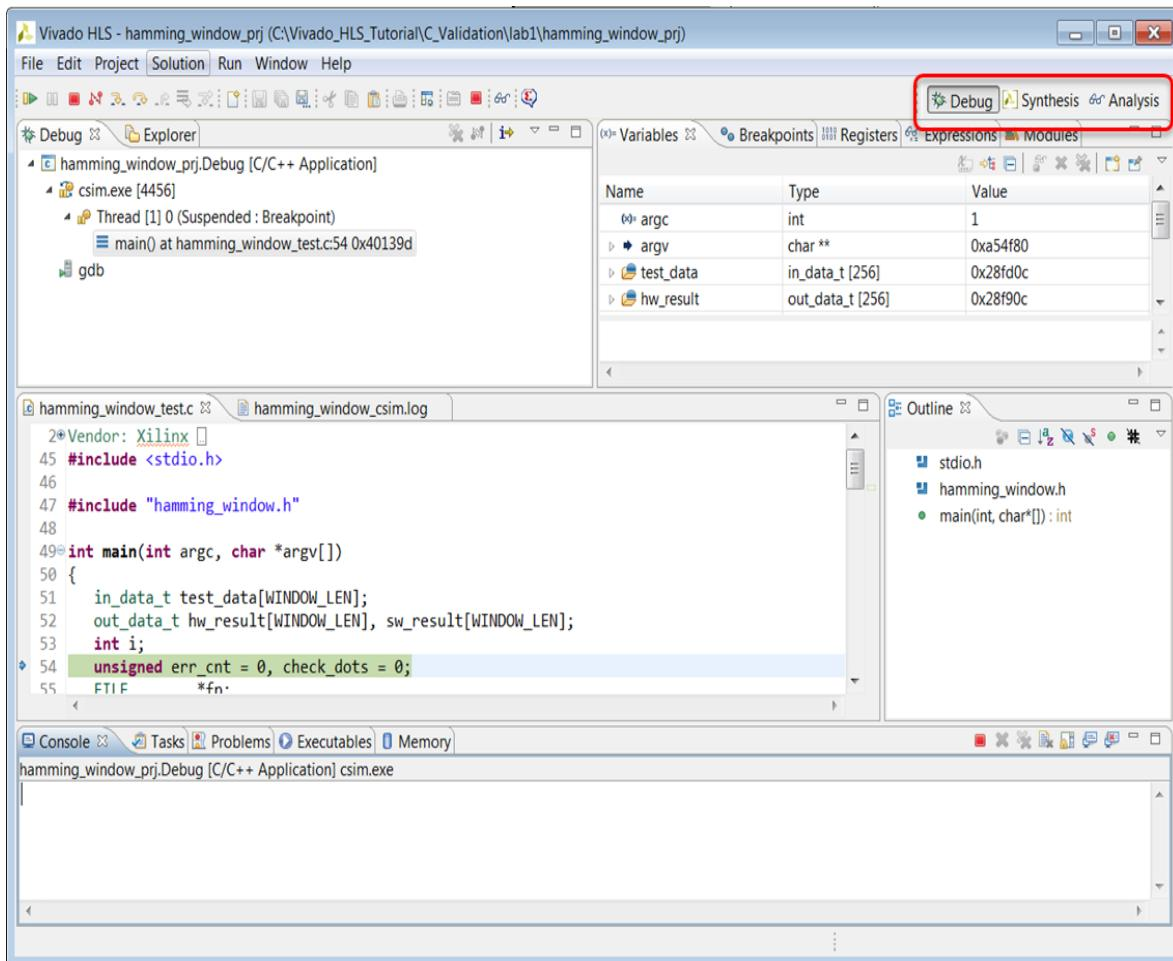

Figure 3-8: The HLS Debug Perspective
The Debug option compiles the C code and then opens the Debug environment, as shown in Figure 3-8. Before proceeding, note the following:
- Highlighted at the top-left in Figure 3-8, you can see that the perspective has changed from Synthesis to Debug. Click the perspective buttons to return to the synthesis environment at any time.